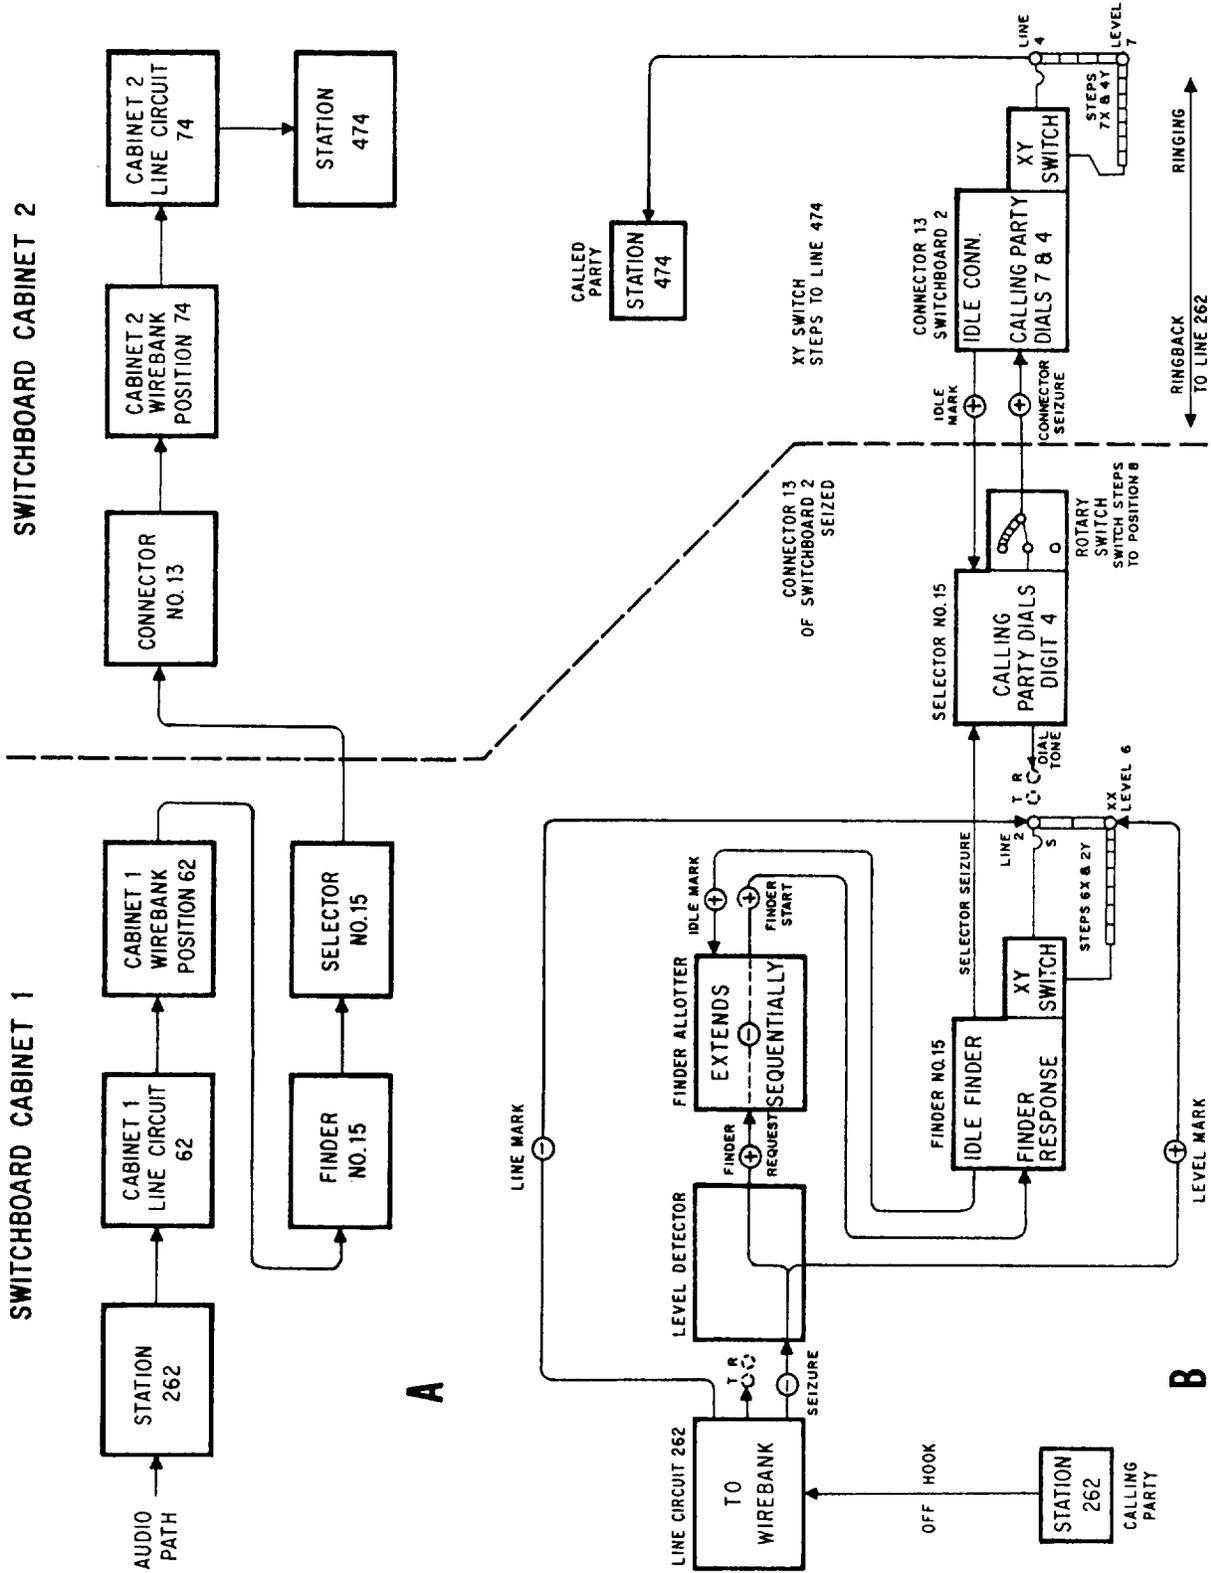

Figure 6-40.—Sample cell audio path and switch control path.
Figure 6-40 is a simplified block diagram tracing a sample call from one station to another. As an aid toward understanding the actions involved in completing this call, keep in mind the following facts concerning the MDM system:
The sample call diagramed in figure 6-40, view B, is between station 262 (the calling party) and station 474 (the called party). Assume that station 474 is not busy at the time of the call and that the idle connector is connector No. 13 in the switchboard of the called station.
As soon as line 262 is found, finder No. 15 seizes its associated selector (No. 15) and dial tone is returned to the calling station by way of the wire bank connection. The calling party now dials the initial digit 4 of the called station (474) and the rotary switch associated with selector No. 15 steps to seize the next idle connector in switchboard No. 2. The next idle connector in this case is connector No. 13. Selector No. 15 extends a seizure ground, which prepares the connector circuitry for the second and third digits to be dialed. When the calling party dials the digit 7, the wipers of the XY switch associated with connector No. 13 step seven times in the X direction, following the dial pulse. When the digit 4 is dialed, the wipers step four times in the Y direction. The XY switch wipers now rest on the wire bank position corresponding to called line 474. The connector extends ring voltage from the selector to the called line. When the called party answers, the switch-through is completed. The audio path for the call is shown in figure 6-40, view A.